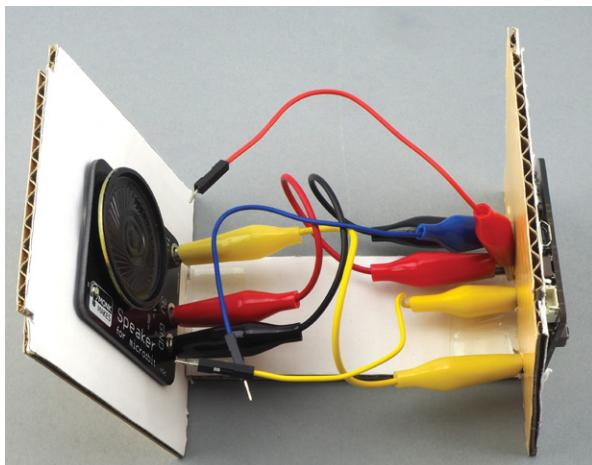

Figure 6-15: The back card and speaker
- Now attach the speaker to the back card; use adhesive tape or putty to secure it. Clip the other end of the three alligator clips you've connected to the micro:bit (black, red, and yellow) to their corresponding ports on the speaker (GND, 3V, and 0, respectively). Affix the back card to the bottom card using adhesive tape. As you can see in Figure 6-15, your chassis should now be in a U shape. The red, blue, and yellow alligator clips here are waiting to be attached to the servomotor.